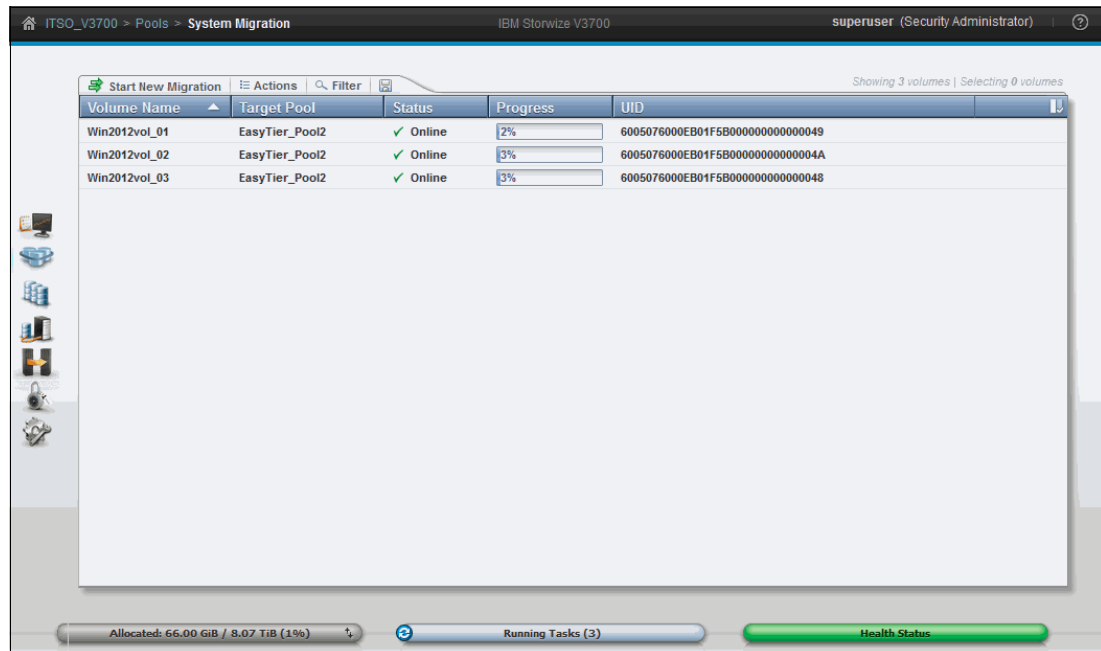

Figure 6-62 Storage Migration progress
2. The end of the Storage Migration wizard is not the end of the data migration task. It is still in progress. A percentage indicator is displayed in the Storage Migration pane, as shown in Figure 6-62.